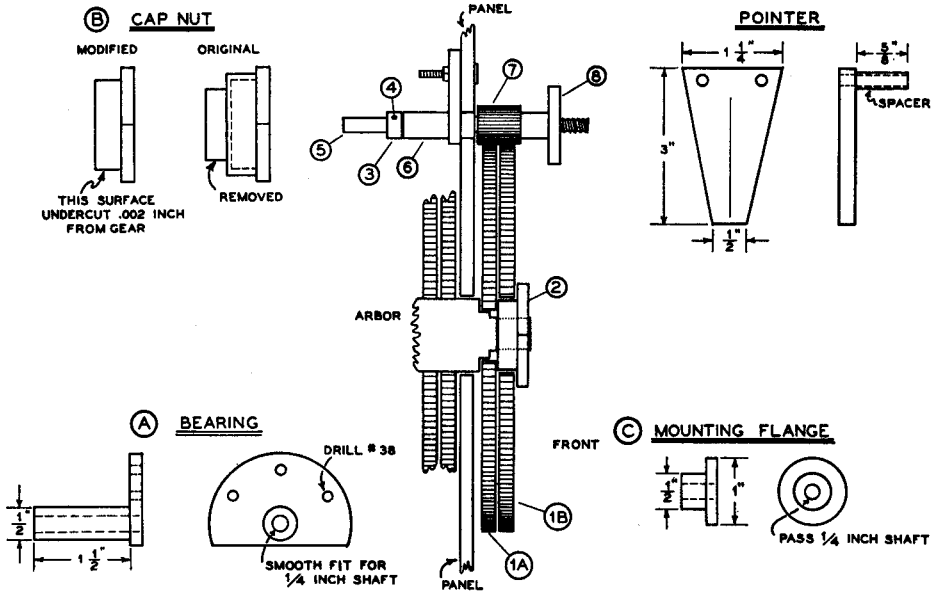

Fig. 3. Additional parts and mounting arrangement for installing a directly calibrated bandspread dial on the BC-459A.
5) Drill out the 3/8" hole in step 4. Take the bearing shown as Part A, Fig. 3, and position it at the back of the front panel in line with the 3/8" hole and with the cutoff flange section at the bottom. Scribe the three holes necessary to mount it to the panel. Drill out with a No. 38 drill. Mount the bearing with binding head 3-48 screws.
7) Take the original cap nut used for securing the old frequency dial to the arbor and set it up in a lathe and undercut as shown in *Part B, Fig. 3*. Any local machine shop will do this for very little cost.
10) Take a 1/4" shaft about 2 3/4" long and thread one end for a distance of about 1/2". Use the most convenient thread for which you have nuts. This shaft should rotate smoothly in the bearing *Part A, Fig. 3*. It is retained on one end by a collar and pin, or set screw. Sometimes a shaft can be secured with the center pre-drilled and tapped. Such an arrangement is shown in *Fig. 7*. The small gear, part number 7 in *Fig. 7*, is the 26-tooth 48-pitch gear originally used for adjusting the link coupling, removed in *step 3*.
11) Make the small flange for spacing the bandspread dial. It is shown as *Part C, Fig. 3*. There are three possible means of attaching the bandspread dial to the shaft. Two are already described in *step 10*, a third is to drill three small holes in the flange of *Part C, Fig. 3*, and bolt the dial directly to the flange section.
12) Closely examine the cut-away assembly drawing in *Fig. 3*. Assemble the gears and shafts for the dial as shown. Note particularly, that gear *1A* is held tight against the dial arbor by the cap nut. Gear *1B* has been reamed sufficiently to float between the cap nut and gear *1A*. Don't forget to put the spring back between the gears *1A* and *1B* in the assembling process. The fiber washer under the original antenna coupling knob should be inserted on the shaft between the small gear, *Part 7*, and the new bearing, *Part A*. Mesh the two gears with sufficient tension to eliminate any back lash. Do not bottom the two gears as this would cause irregular dial motion.
sheets of plexiglas. The pointer is diagramed in *Fig. 3*, and is positioned as shown in *Fig. 4*.
Remove the top and bottom shield covers, and the oscillator cover. The common ground, filament, p.a. plate, oscillator plate, p.a. screen and antenna relay leads should be connected to the power socket at the rear of the chassis as shown in the diagram, Fig. 3.